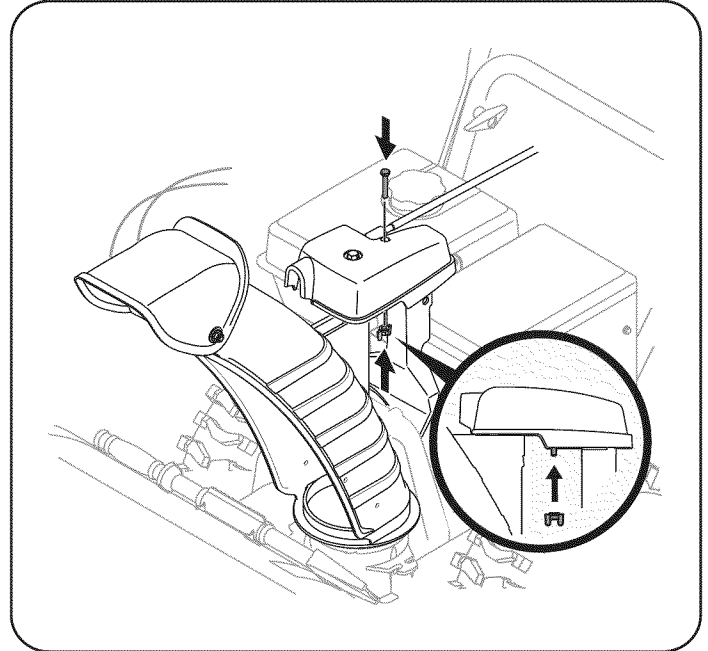

Figure 6
5. Finish securing chute control head by installing hex screw and wing nut removed in Step 2. See Figure 6.